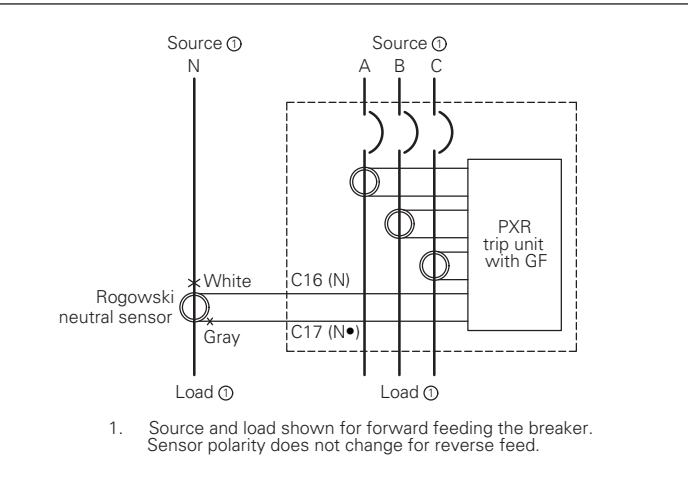
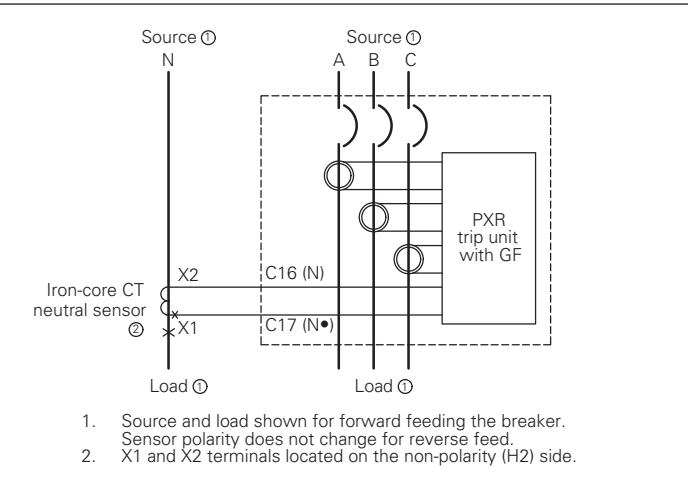
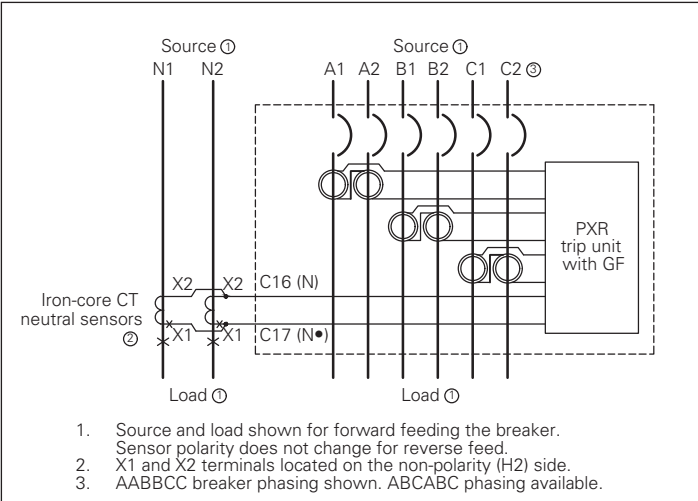
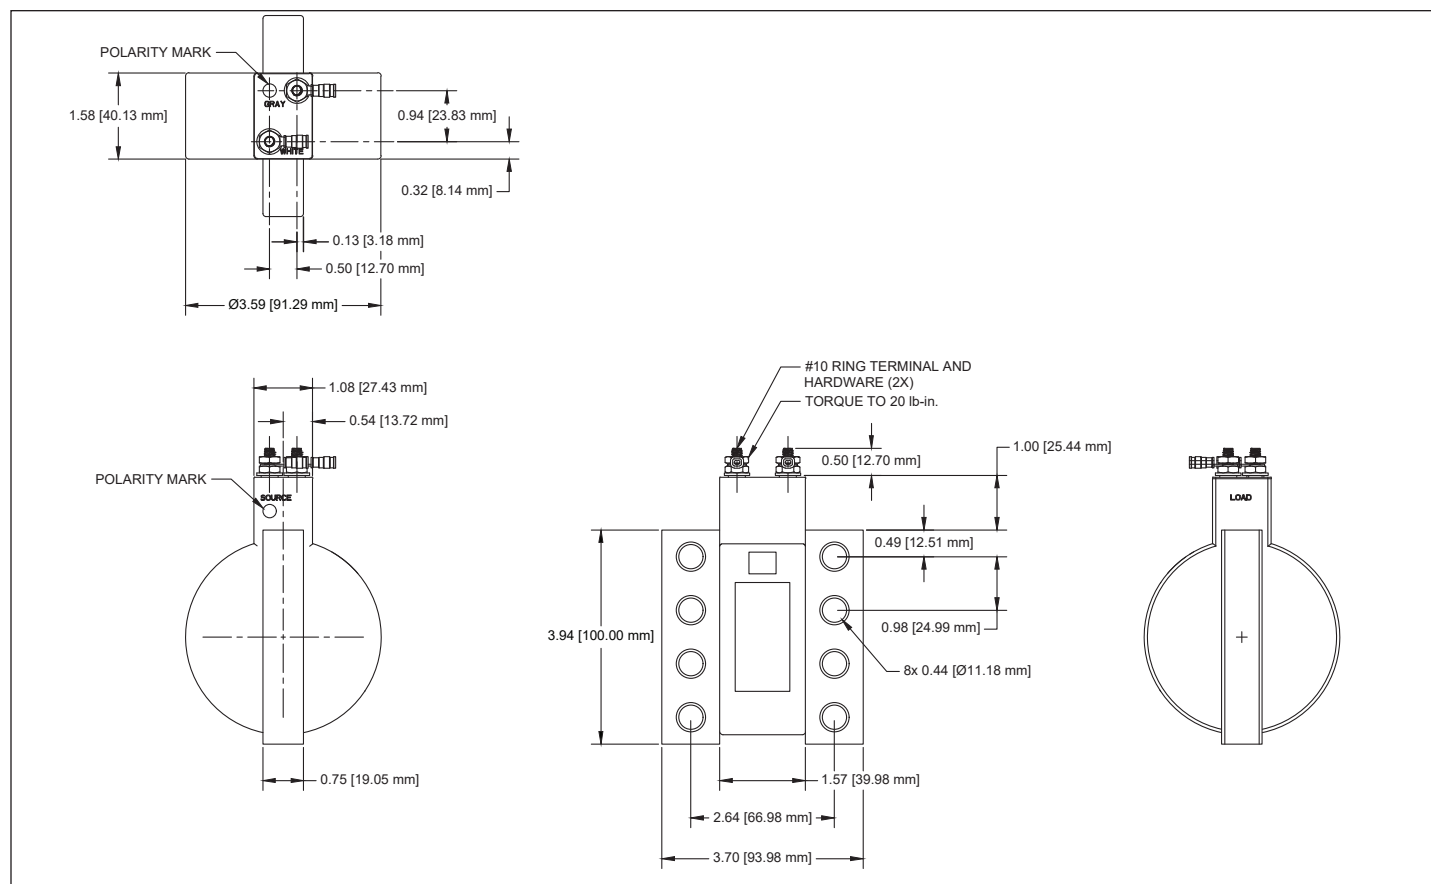

Figure 1. Rogowski coil (bus-bar) neutral sensor application.
Figure 2. Iron-core CT (window) neutral sensor application.
Figure 3. Double frame iron-core CT neutral sensor option.
Figure 6. Rogowski (busbar) type dimensions.
Magnum PXR and Power Defense SB (PD-SB) trip units come with the option of connecting either a current transformer (CT) or a Rogowski coil as the neutral sensor. Whichever neutral sensor is selected, it is connected to the same two secondary terminals. Refer to **Figure 1** for Rogowski connections and **Figures 2 & 3** for CT connections. Note that the sensor can be mounted in the opposite orientation if the secondary wiring is also reversed. Double-wide breakers can use a single neutral sensor of either type or two CT type sensors mounted and wired in parallel (**Figure 3**). Only the current sensors described in this document should be used with Magnum PXR and PD-SB trip units. Refer to **Figures 6 & 7** for dimensional and labeling details.